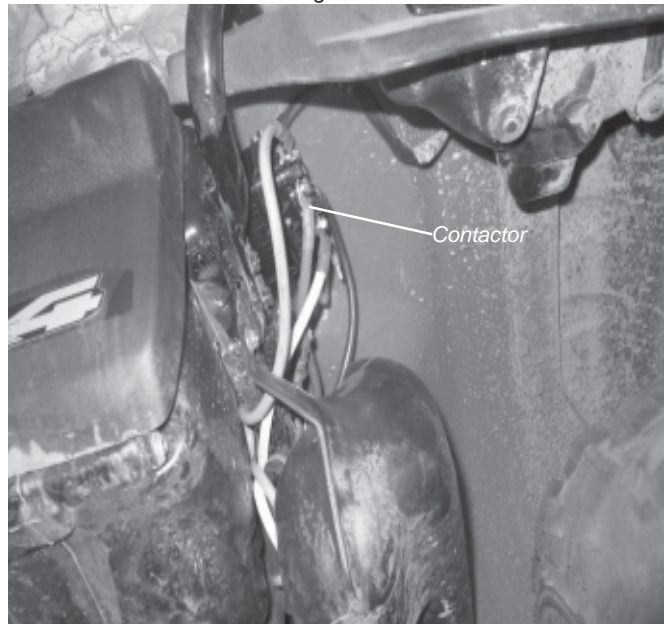

Figure 8
14. Figures 8 and 9 show location of a suggested position of the contactor that comes with the winch. This location is on the right side of the ATV mounted to the side of the storage box. Mounting the contactor in this location will require drilling two holes in the side of the storage box.